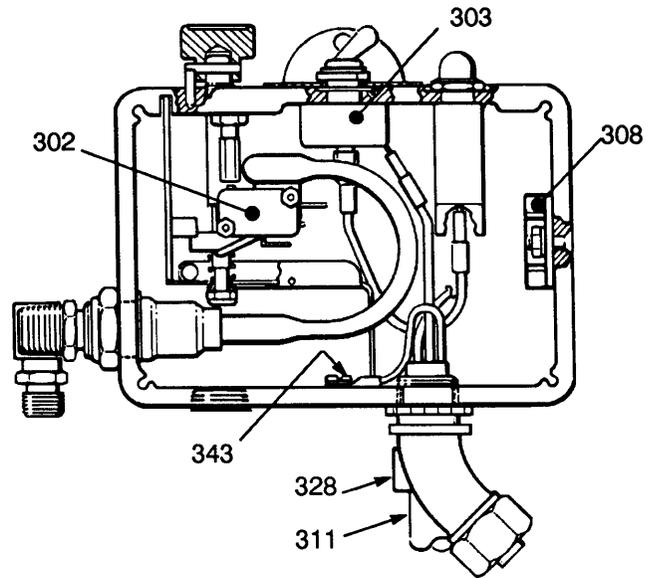

Fig 15
**NOTE:** See Fig 15 for this procedure.
2. Disconnect the power supply cord lead from the ON/OFF switch (303), the white wire going to the bridge (308), and the green wire to the grounding screw (343).
3. Loosen the strain relief bushing (328). Remove the power supply cord (311).
4. Install the new cord (311) in the reverse order of disassembly.
2. Use a needle nose pliers to disconnect the upper terminal wire from the microswitch (302), for ease in removing the ON/OFF switch (303). See Fig 15.
3. Use pliers to disconnect the two black wires from the ON/OFF switch (303). See Fig 15.
4. Use a 5/8 in. socket wrench to loosen and remove the nut and rubber boot (304) from the top of the pressure control box. Remove the switch guard (305).
5. Remove the ON/OFF switch (303).
6. Install the new switch so the internal tab of the anti-rotation ring (A) engages with the vertical groove in the threads of the switch, and the external tab engages with the blind hole (B) of the pressure control box.
7. Install the switch guard (305), aligning the internal tab with the groove in the threads.
8. Powder the inside of the rubber boot (304) with talcum, then shake excess out of the boot.
10. Reconnect the wires to the ON/OFF switch (303) and reconnect the wire to the microswitch (302).